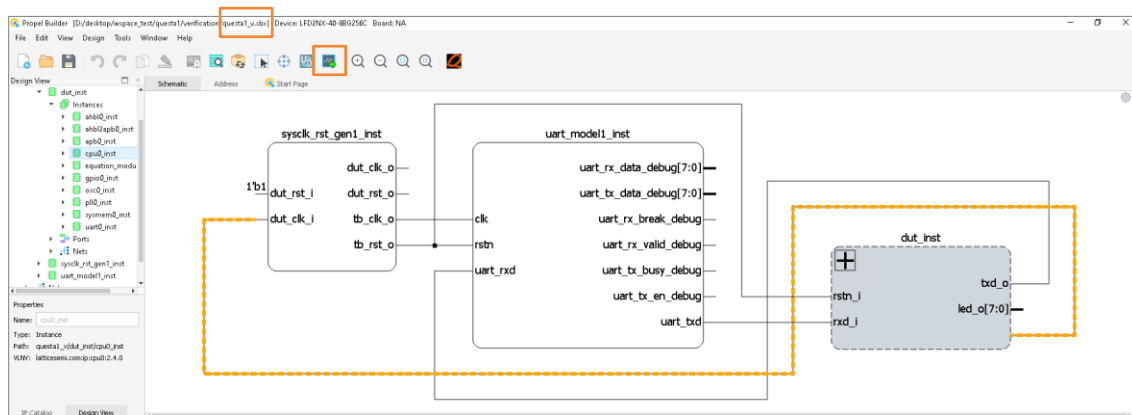

Figure 2.196. Launch Simulation in Verification Project
**Note:** SoC design project is called `***.sxb`. Verification project is called `***_v.sxb` (Figure 2.196).